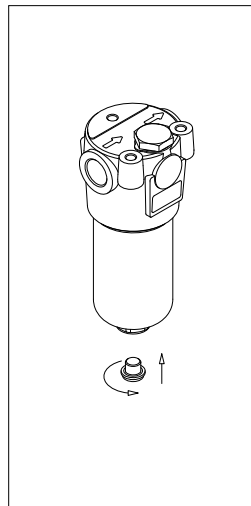

fig. 15
- (Fig. 15) Screw the drain plug in referring to the tightening torque table in paragraph 3